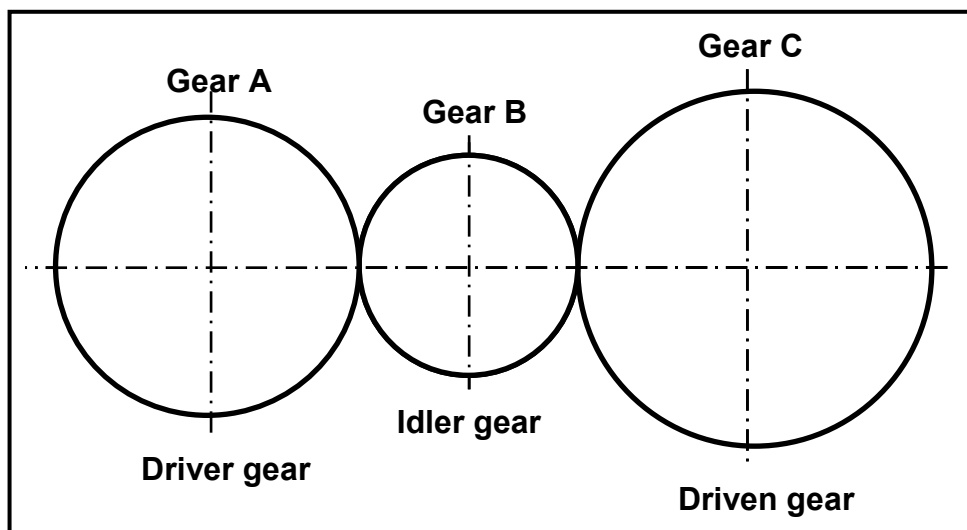

FIGURE 6.1
6.2 The gear system in FIGURE 6.1 below is used to control a hoisting device. The driver gear has 56 teeth and rotates at 700 r/min. The idler gear used to change the direction, rotates at 980 r/min. The driven gear has 64 teeth.